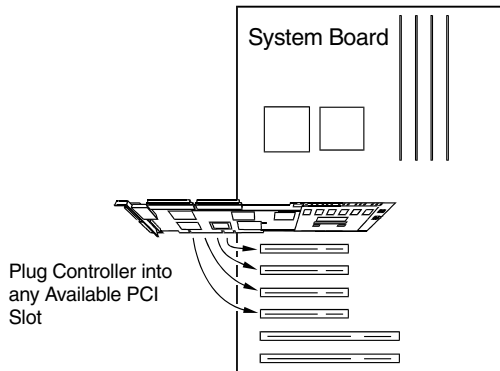

Figure 2. Plugging the DAC960PG or DAC960PJ into a PCI Slot
1. With the power off, plug the DAC960PG or DAC960PJ controller into an available PCI slot (see Figure 2).